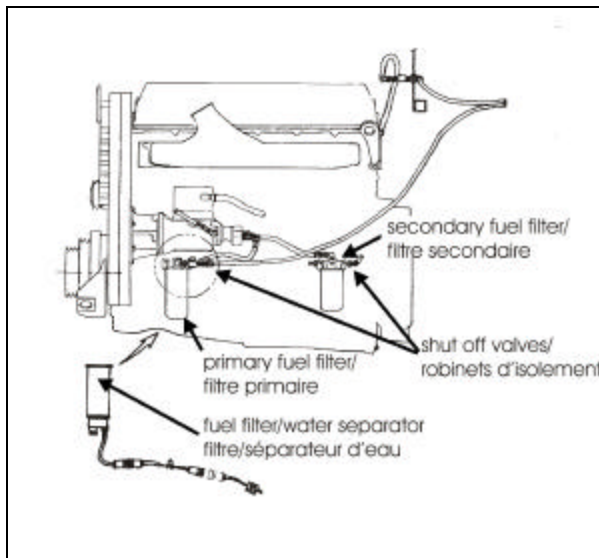

FIGURE 1: SHUT OFF VALVES AND FUEL FILTERS
1. Close the manual shut-off valve located at the inlet side of the primary fuel filter on the engine R.H. side (figure 1).